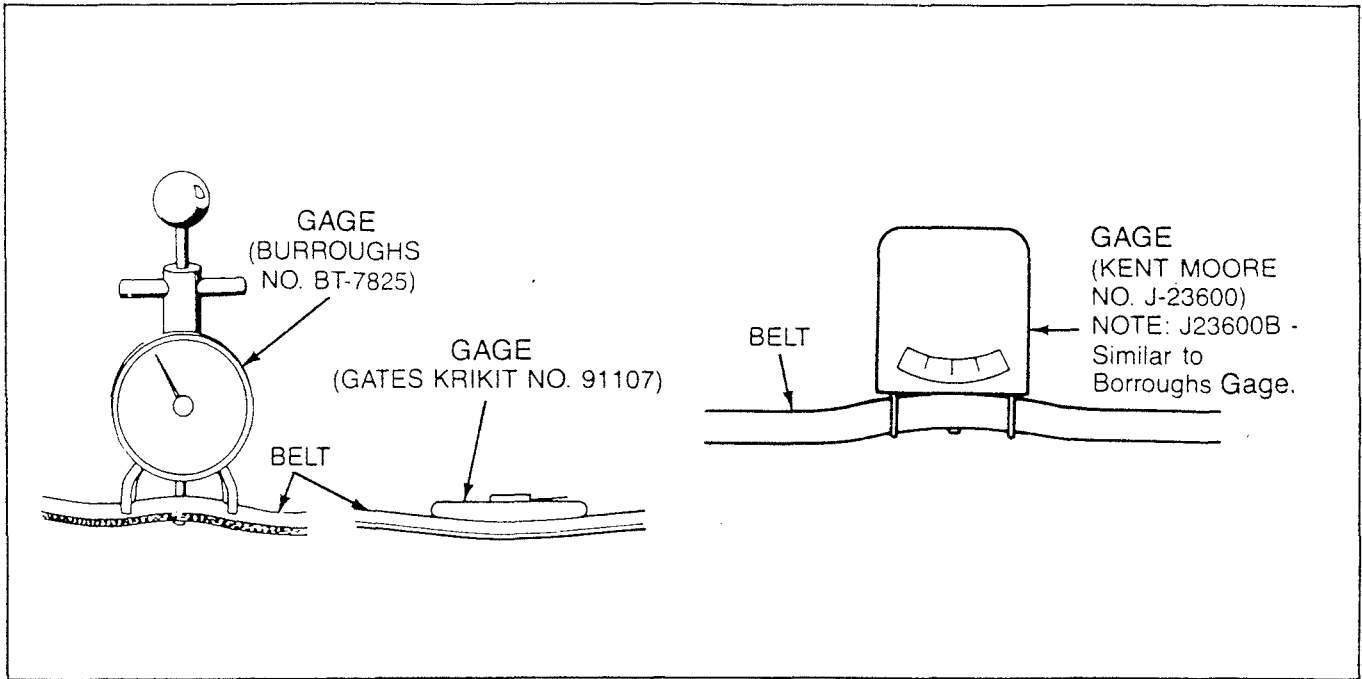

Figure 3-9 — Belt Tension Adjustment
1. Loosen pivot bolt and pump brace adjusting nuts. (See Figure 3-9.)